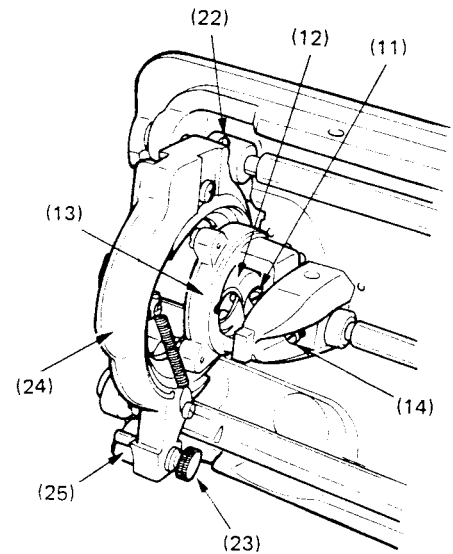
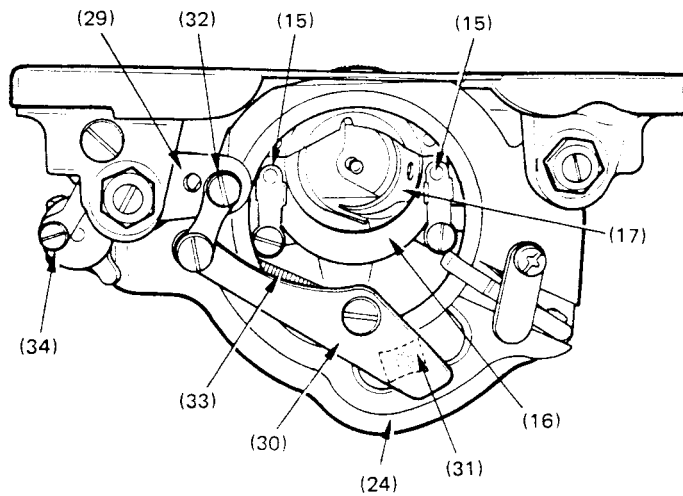
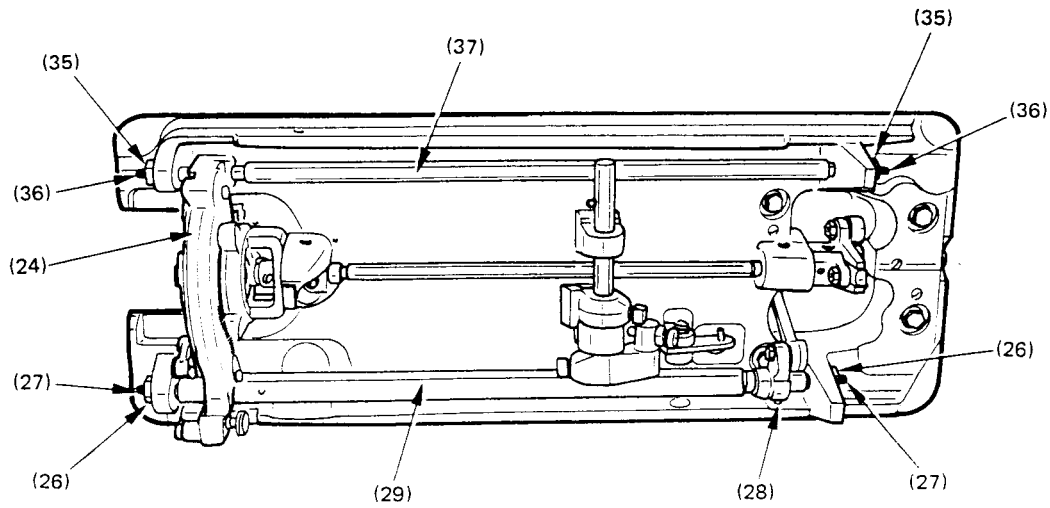

Fig. 11
Fig. 13
Fig. 16
Loosen two set screws (11), Fig. 11, (one from top side of bed) in the shuttle driver (12). Move point of shuttle to center of needle and securely tighten the two set screws (11).
1. Loosen two set screws (11) holding the shuttle driver (12), Fig. 11.
2. Loosen set screw (14) holding the shuttle race (13), Fig. 11.
1. Push left and right shuttle race gate latches (15) outward and remove shuttle race gate (16), Fig. 13.
2. Remove shuttle body (17), Fig. 13.
3. Turn machine pulley over toward you until needle bar is located at middle of its stroke. Loosen two screws (11), Fig. 11, and remove shuttle driver (12).
4. Loosen screw (14) and remove shuttle race (13) toward head end of machine. (Fig. 11)
To adjust the height of feed wheel, loosen screw (22) and thumb screw (23), then raise or lower the feed wheel frame (24) by turning the feed wheel frame adjuster (25), as required. (Fig. 11)
2. Feed wheel can be moved toward left or right, as required, after loosening two nuts (26) on screw centers (27) and screw (28), Fig. 16, and screw (22), Fig. 11.
3. To move feed wheel toward left, loosen screw center (27) at left end of shaft (29), as required, and tighten the other screw center an equal amount. Then loosen screw (22) and move feed wheel frame (24) toward left an equal amount.
4. Make certain that screw centers hold feed rock shaft (29) snugly in place without binding. Then securely tighten both nuts (26), screw (28) and (22).
NOTE: Feed wheel drive (30) should be lightly in contact with the left side surface of feed wheel frame (24) and function freely without binding. (Fig. 13)
When the stitch length is set to zero, make certain feed wheel driver block (outside) (31) will be located centrally in the slot of feed wheel frame as shown in Fig. 13.
1. Remove hinge screw (32), spring (33) and remove feed wheel driver (assembly) (30), Fig. 13.
2. Loosen screw (28), Fig. 16, and turn feed rock shaft (29), Fig. 13, as required to permit removal of feed wheel frame (24).
3. Remove hinge screw (34), Fig. 13, both nuts (35) and screw centers (36), Fig. 16. Then remove feed wheel frame (24) with feed wheel frame shaft (37).